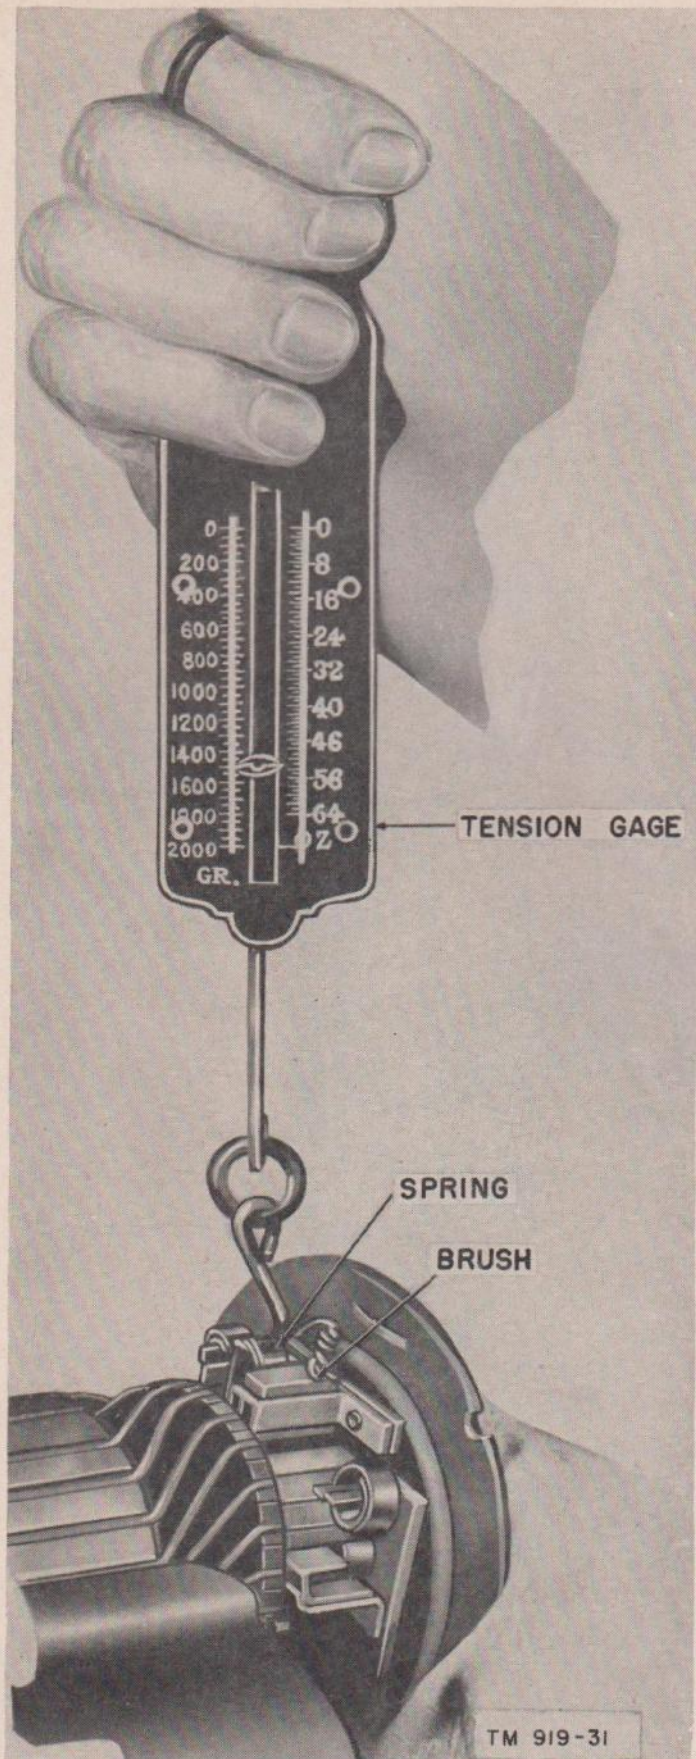

Figure 33. Measuring brush spring tension starting motor.
3. To check the tension of the reaction-type brush springs (33), hook a scale under the brush spring near the brush and pull on a line parallel with the side of the brush (fig. 33). Take the reading just as the spring leaves the brush. The brush spring tension should be between 2.6 to 3.2 pounds (42 to 53 oz.). If the brush spring tension is too low, a loss of efficiency will be caused by poor brush contact. If the tension is too great, the commutator and brushes will wear excessively and have short life. It is important, therefore, that the brush spring ten-